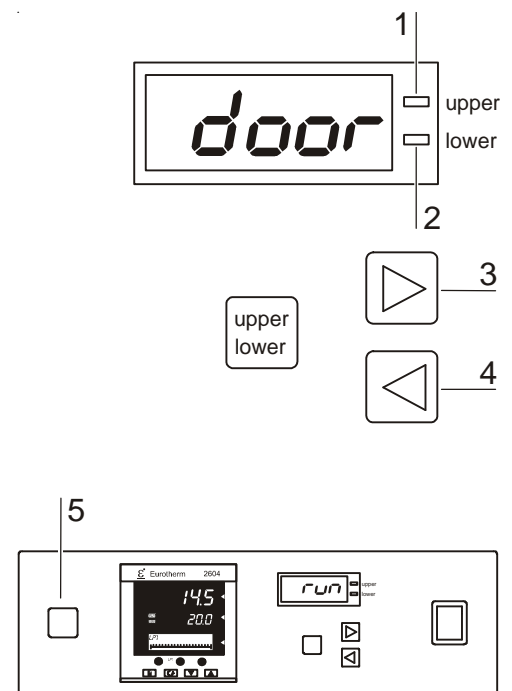

Fig. 29,
**Fig. 29:** During a visual inspection with the service door opened, each subsystem handler can be moved along the direction of X. The traveling motion is controlled with the keys [3] and [4] and enabled with the locking key [5] on the operating panel. This key combination that requires both hands is to prevent accidental or uncontrolled handler motions.